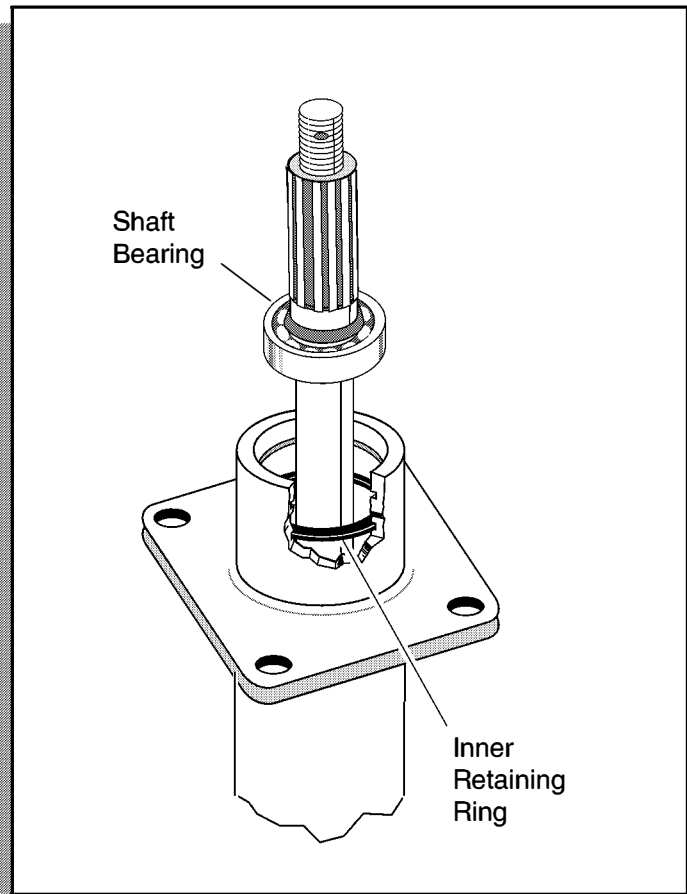

Fig. C-24 Axle Shaft Installation
- Gently rotate the shaft until it meshes with the transaxle gearing and drops into place, seating the axle shaft bearing against the inner axle tube retaining ring (Ref Fig. C-24 on page C-10).